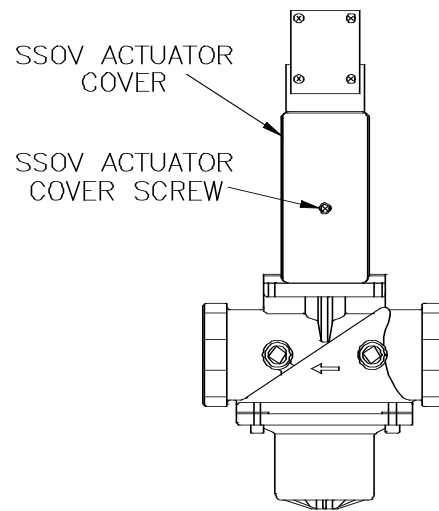

Figure 6.5
2. Remove SSOV cover by removing the screws securing the actuator to the valve body. (See Fig. 6.5).